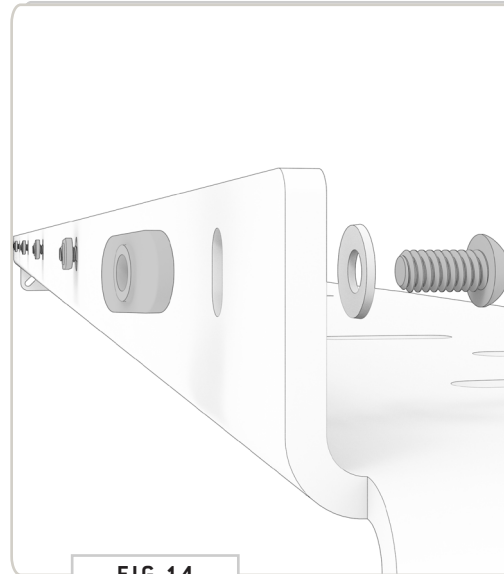

FIG 14
5.1 Crossbar Fairing Bracket: Stack a 1/4-20" x 0.5" Button Head Screw and 1/4" Belleville Lock Washer as shown in FIG 14 and insert into the six available front holes of the Fairing Light Bar Tray. Loosely assemble using a T-Nut. You'll only want to screw the T-Nuts on a little in order to provide clearance for the next step.